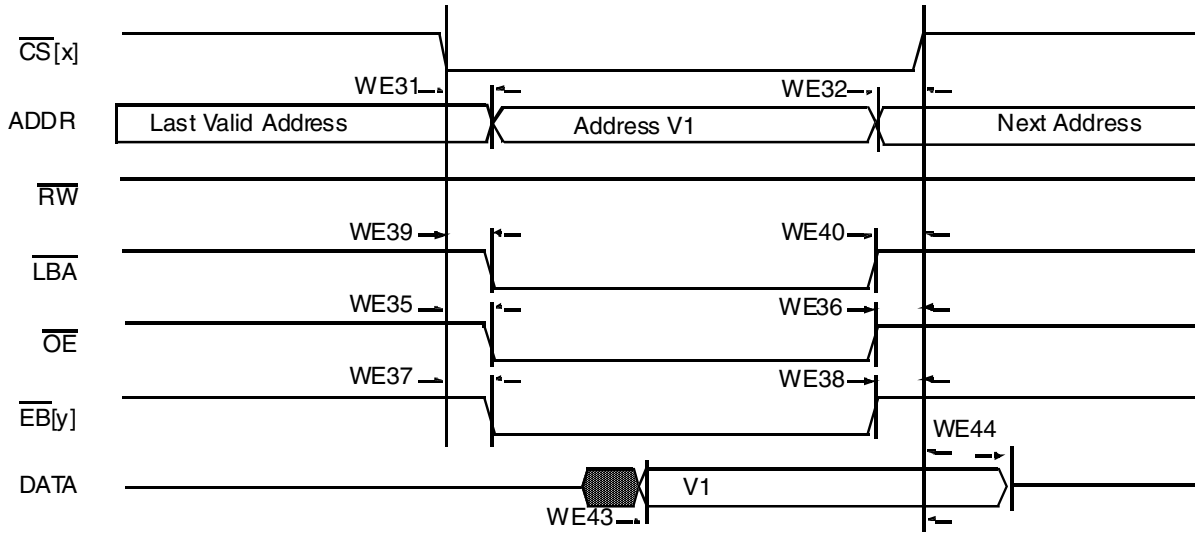
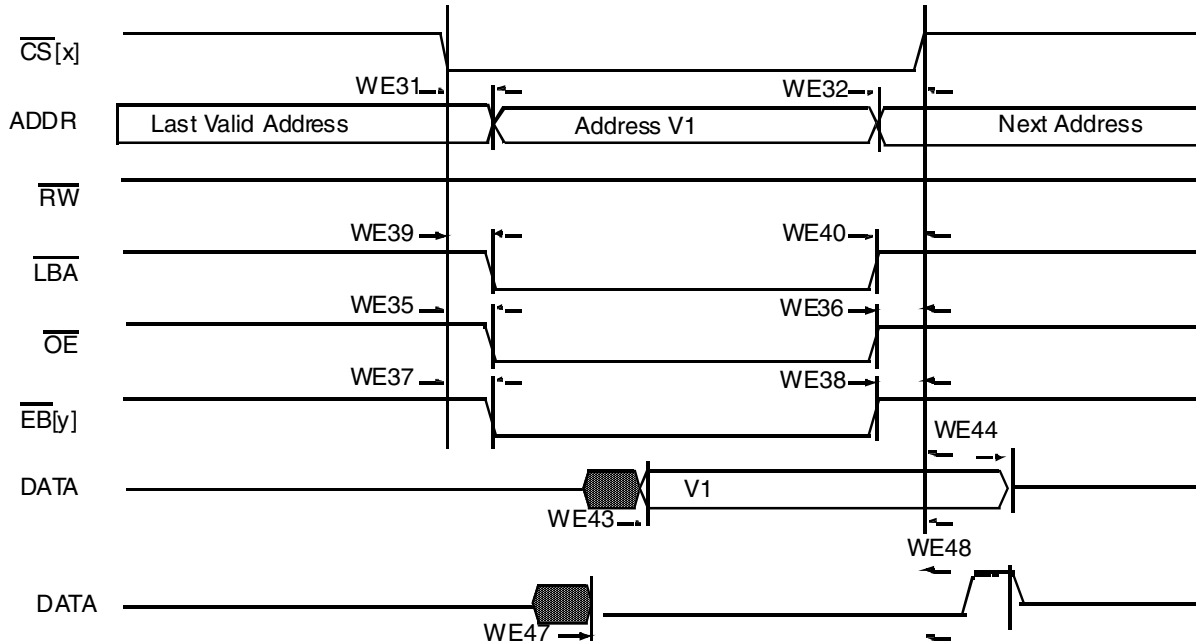

Figure 45. Asynchronous Memory Read Access
Figure 49. DTACK Read Access
Figure 45 through Figure 49, and Table 49 help to determine timing parameters relative chip select (CS) state for asynchronous and DTACK WEIM accesses with corresponding WEIM bit fields and the timing parameters mentioned above.